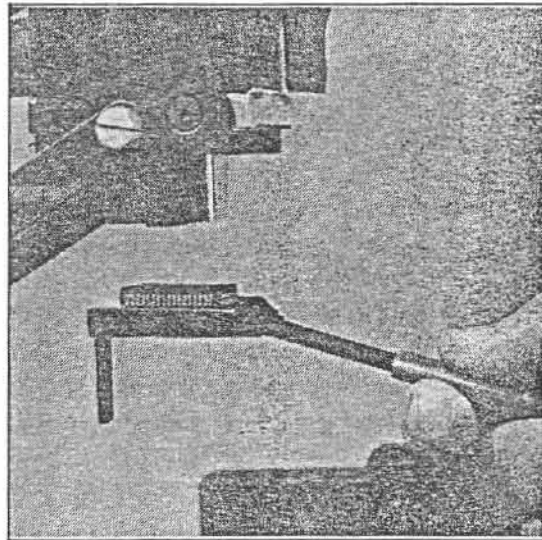
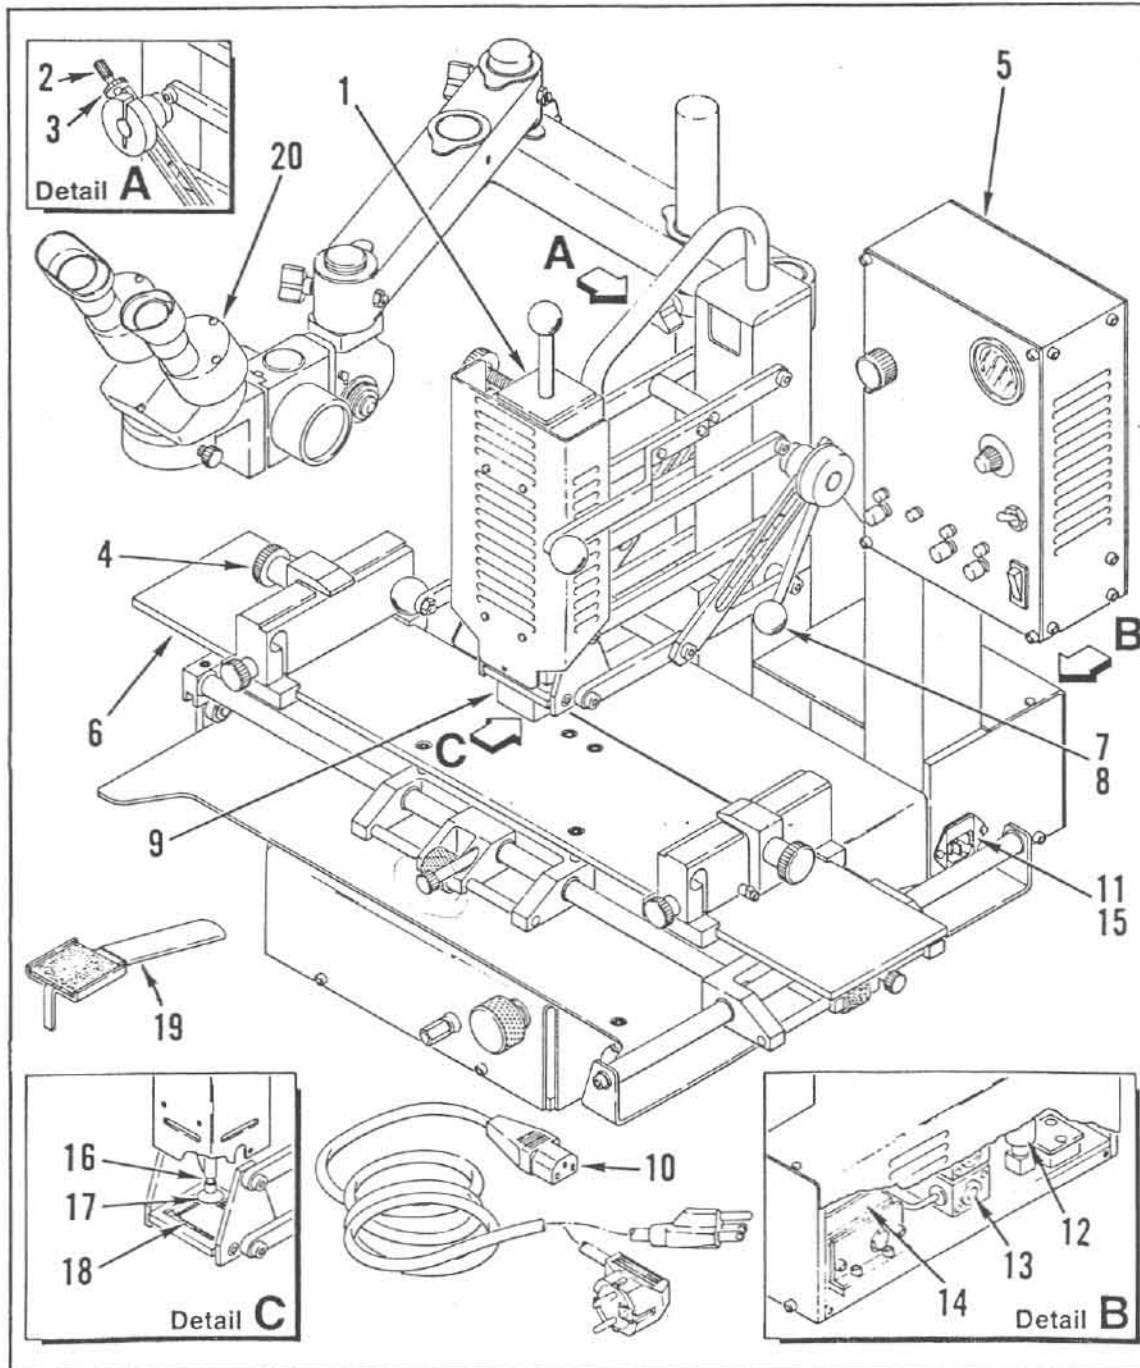
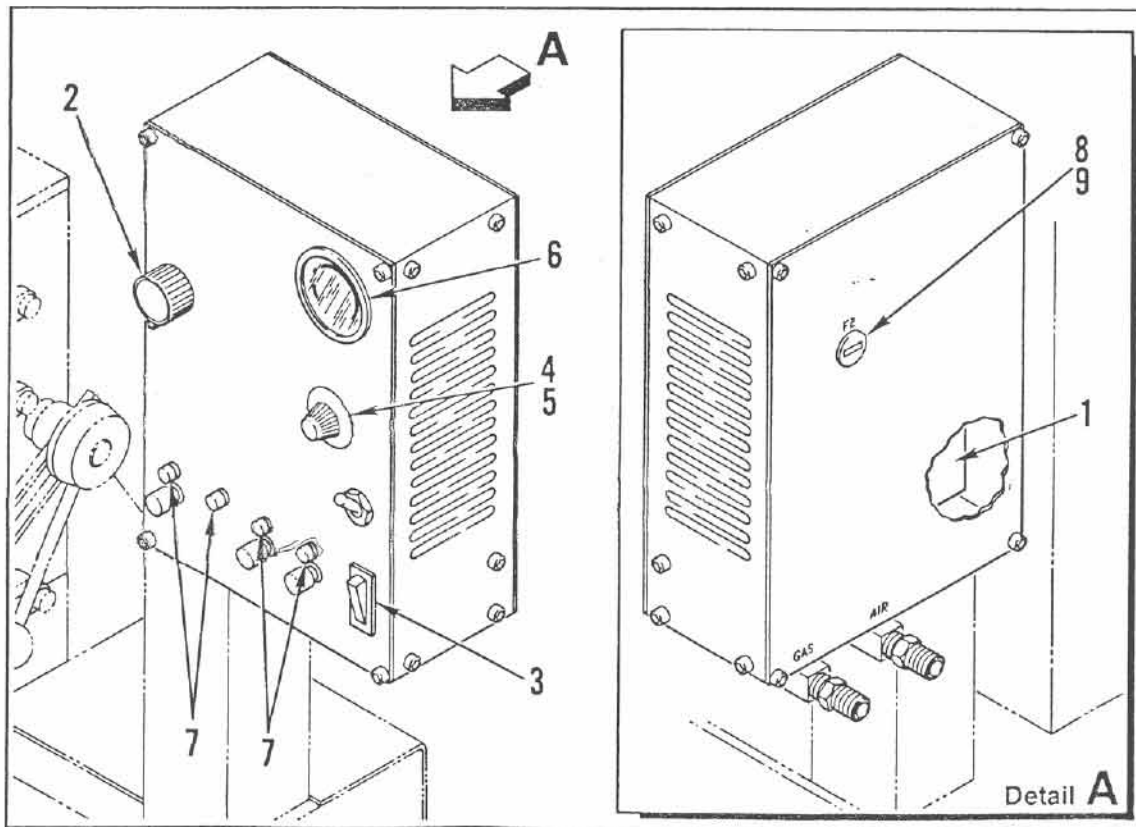

FIGURE 12. COMPONENT REPLACEMENT
FIGURE 13. REPLACEMENT PARTS FOR CRAFT-100A SYSTEM
FIGURE 14. REPLACEMENT PARTS FOR PACE CRAFT-100A CONTROLLER ASSEMBLY
- insert the replacement component into the Nozzle using the Nozzle Chip Tool, refer to Figure 12,
The main power Fuse (F1) is located in the top half of the AC Receptacle located on the side of the system (refer to Figure 12). The Controller Panel Fuse (F2) is located on the rear of the Controller Panel (refer to Figure 13).
When ordering replacement parts for your PACE Craft-100A System, refer to Tables 4 and 5, Table 6 and Figure 13, and Table 7 and Figure 14 locating the desired part(s). Use the item number in the Figure(s), then refer to the Table(s) for that item number, part description and PACE part number.
(Refer to Figure 13 for Item Number)
Controller Assembly, Gas/Air (refer to Table 6 and Figure 14)	6018-0033
(Refer to Figure 14 for Item Number)